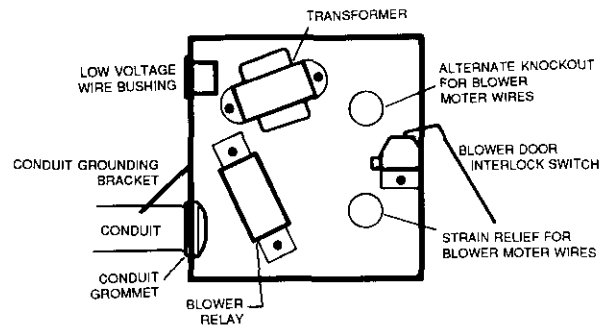
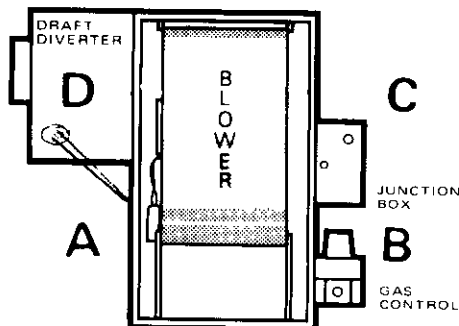

Figure 20 (4-019)
Figure 22 (4-024)
- a. **Line voltage wiring:** See Figure 20 to identify junction box components. Remove blower motor, red or blue wire from spliced fan/limit control brown wire. Remove blower motor black wire from blower relay, terminal "N.O." Remove blower motor white wire from spliced transformer primary, white wire. Remove fan/limit control, black wire from blower relay, terminal "N.C.". Remove 3/4"-strain relief busing from back of junction box.
- a. **Line voltage wiring:** See Figure 20 to identify junction box components. Remove blower motor's black wire from spliced black and orange wires. Remove blower motor's white wire from transformer primary.
18. Remove junction box alternate knockout in back of junction box. See Figure 20 for location of alternate knockout.
19. At location "B" in Figure 22, install 7/8"-insert bushing in furnace casing. Install junction box with blower door interlock switch facing blower end of furnace. See Figure 20 for interlock switch location.
22. Make sure conduit grounding bracket touches conduit. See Figure 20 for grounding bracket location.
To install draft diverter in position "D", Figure 22: